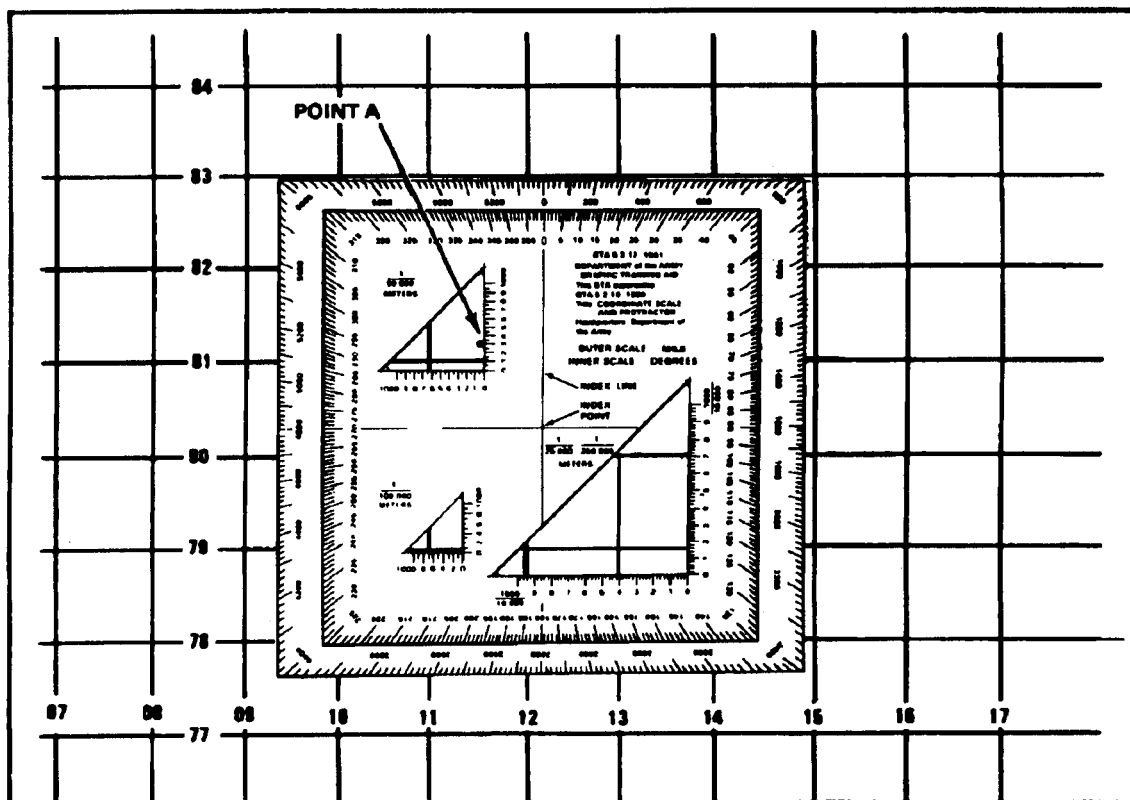

Figure 12-4. Determining Coordinates of a Point Using Coordinate Scale.
Use the coordinate scales to determine the coordinates of a point (Point A) already plotted on a map (Figure 12-4). First, locate the grid square in which the point is located. The number of the vertical grid line on the left (west) side of the grid square will be the first and second digits of the coordinates (11). The number of the horizontal grid line on the bottom (south) side of the grid square will be the fourth and fifth digits of the coordinates (81).